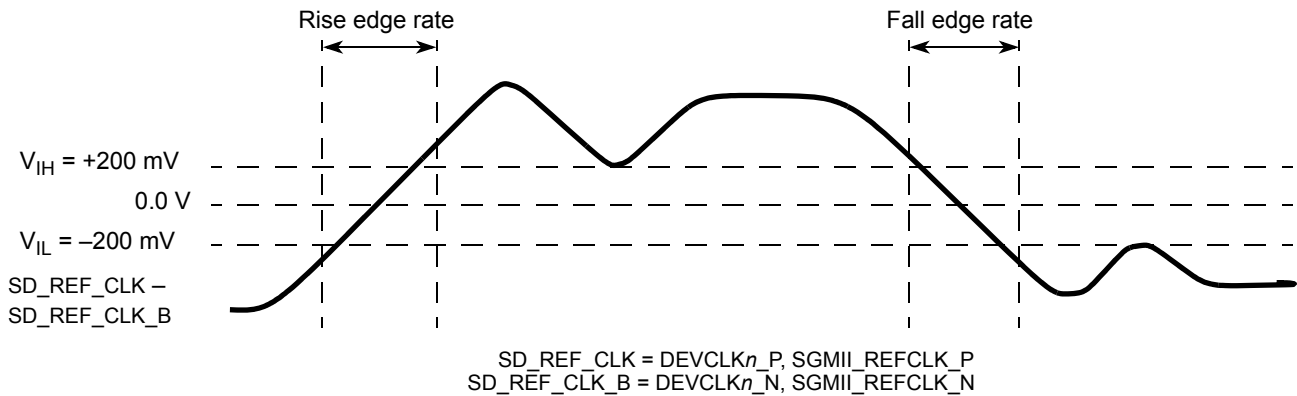

Figure 35. Differential measurement points for rise and fall time
The differential waveform is constructed by subtracting the inverting signal (SD_TX_n_B, for example) from the non-inverting signal (SD_TX_n_P, for example) within a differential pair. There is only one signal trace curve in a differential waveform. The voltage represented in the differential waveform is not referenced to ground. See Figure 35 as an example for differential waveform.
- Measured from -200 mV to +200 mV on the differential waveform (derived from SGMII_REFCLK_P minus SGMII_REFCLK_N). The signal must be monotonic through the measurement region for rise and fall time. The 400 mV measurement window is centered on the differential zero crossing. See Figure 35.